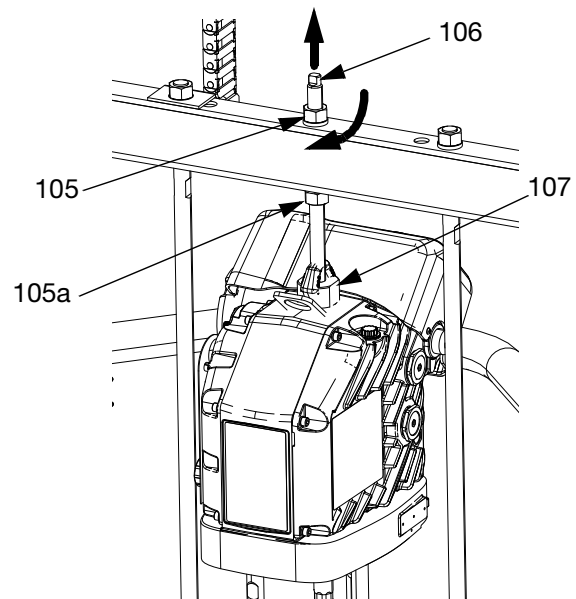

Fig. 37
1. Insert Displacement Pump (AC) on Platen (AD). Follow **Connect Platen** steps on page 44.
3. Connect Driver (AB):
- a. Use wrench on nut (105) on top of Ram bar to lower Driver (AB) onto Displacement Pump (AC). See FIG. 37 on page 45. Thread nut (105) up and tighten it under Ram bar. Tighten nut (105) below the crossbar to 25 ft-lb (34 N•m) maximum.